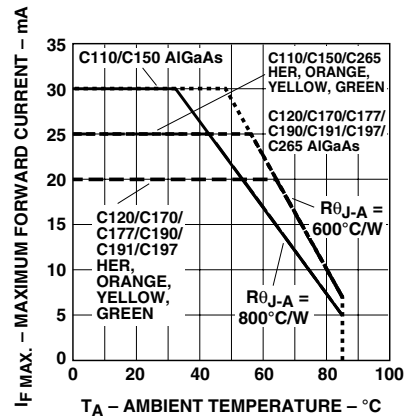

Figure 4. Maximum forward current vs. ambient temperature.
1. Derate linearly as shown in Figure 4 for temperature above 25°C.